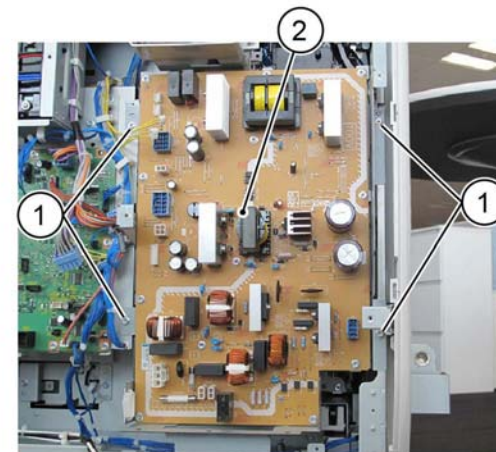

Figure 3 LVPS removal
4. Remove four screws (1), then the LVPS assembly (2), Figure 3.